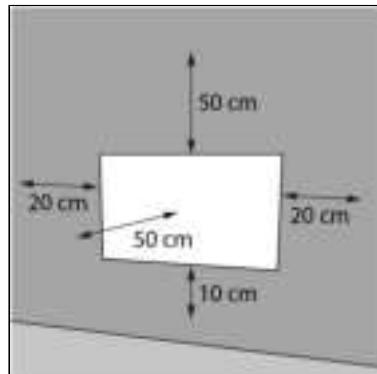

Figure 17.
2. Place the device with a minimum distance (Figure 17) of: